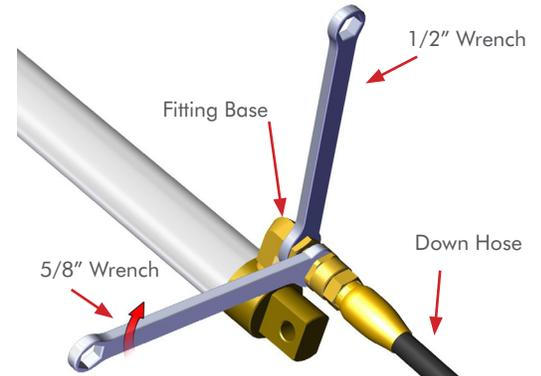

Figure 9
STEP 3 While holding the **DOWN Cylinder Fitting Base** with a **1/2" Wrench**, turn the **DOWN Hose Fitting** clockwise a quarter turn with a **5/8" Wrench**. **FIG 9**